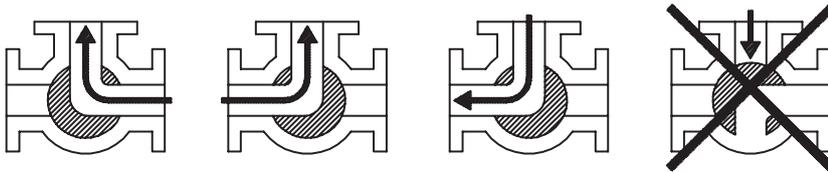

FIGURE 15
- Center Port (A) has no shutoff- function, since no seat is installed there.
B. Concerning flow direction control for 3-Way 4-Seats ball valves, refer to the following illustrations (Fig. 11 to Fig.15).